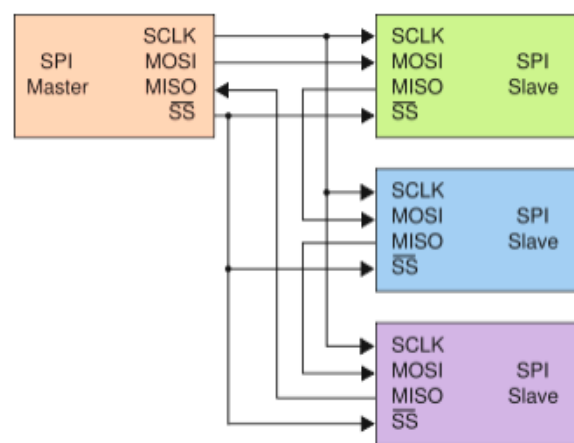

Figure 3: 'Daisy Chain'
- In a 'daisy-chain' arrangement (figure 3):